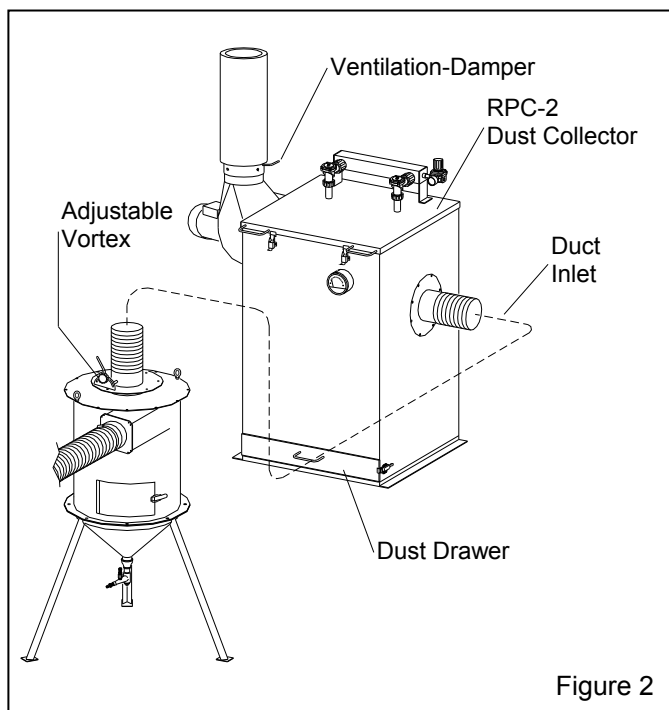

Figure 2
Refer to Figure 1 for arrangement of components using a CDC-1 dust collector. Figure 2 shows the arrangement with an RPC-2 (900 cfm) reverse-pulse dust collector with dust drawer.
1.5.2 RPC-2 Dust Collectors: Shown in Figure 2, this collector is available in a 900 cfm model. Dual filter cartridges are automatically cleaned by a timed, periodic pulse of compressed air. Dust collects in the drawer and must be frequently emptied. Refer to RPC manual number 22788.
1.5.3 RPH Dust Collector: The RPH-2 is for use with 900 cfm models and RPH-3 for use with 1200 cfm models. They are set up and operate the same as the RPC-2, as shown in Figure 2, but instead of a dust drawer, the collector sits atop a hopper, which provides additional dust storage, and empties into a drum. Refer to RPH manual number 21449.
2.1.4 Refer to Figure 1 (and Figure 2 for optional RPC-2 dust collector) for the general arrangement. Place all components in a convenient location where compressed air and electrical service are available. The cabinet location must comply with OSHA and local safety codes. Allow for full access to all doors and service areas, and for efficient handling of large parts. Provide enough clearance at the dust collector for maintenance and to remove the dust container. Place the reclaimor directly behind the cabinet with flex hose connection and metering valve facing toward the cabinet to allow for as few bends as possible. Determine the best location for all components and position them before making compressed air connections, electrical connections, and attaching flex hose.